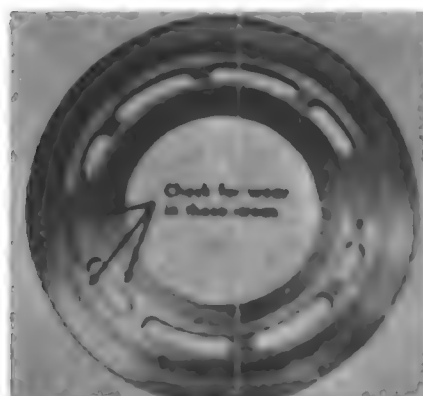

Fig. 124 - Inspect steel valve plates for wear or scoring in the areas shown.
**100. VALVE PLATES AND BEARING PLATES.** Inspect the steel valve plates and brass bearing plates for excessive wear or scoring in the areas shown in Figs. 124 and 125. Although bearing plates and valve plates are available separately, a valve plate and bearing plate should be renewed as a set for either the pump or motor. This will assure proper sealing between the plates